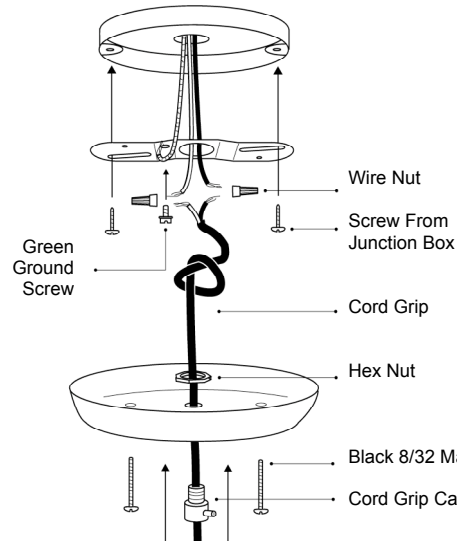

Figure 1
2. (figure 1) Pull the positive and negative wires from the junction box through the center hole in the Crossbar.
3. (figure 1) Make a hook out of the green or bare copper ground wire and place it over the mounting hole in the Crossbar. Screw in the green ground screw to secure the ground wire to the Crossbar.
4. (figure 1) Screw in the two junction box screws through the slots in the Crossbar to secure the crossbar to the junction box.